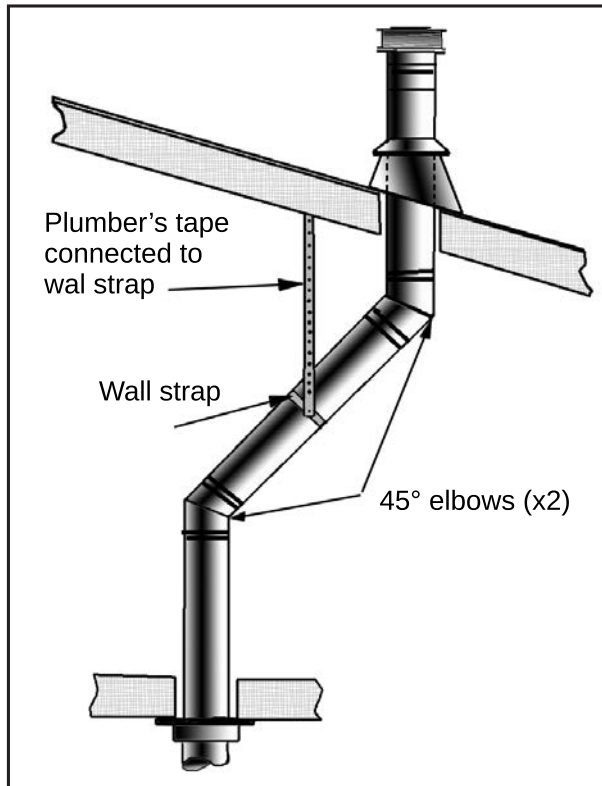

Figure 53 Use of Wall Straps.
- (1) If an offset is necessary in the attic to avoid obstructions, it is important to support the vent pipe every **3' (914 mm)**, to avoid excessive stress on the elbows, and possible separation. Wall straps are available for this purpose (see Figure 53).
- (2) When ever possible, use 45° degree elbows instead of 90° degree elbows. The 45° degree elbow offers less restriction to the flow of flue gases and intake air.